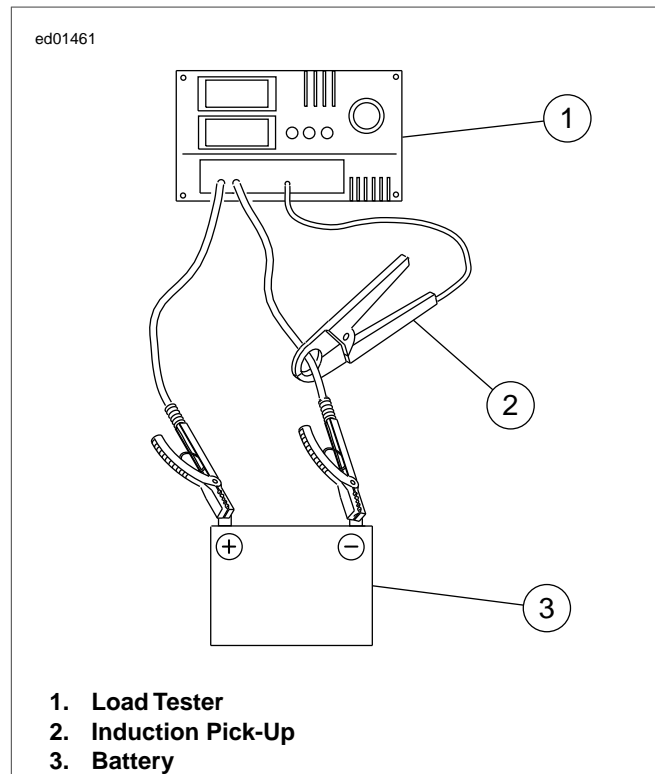

Figure 1-27. Load Test Battery
4. See Figure 1-27. Connect tester leads to battery posts and place induction pickup over negative (black) cable.